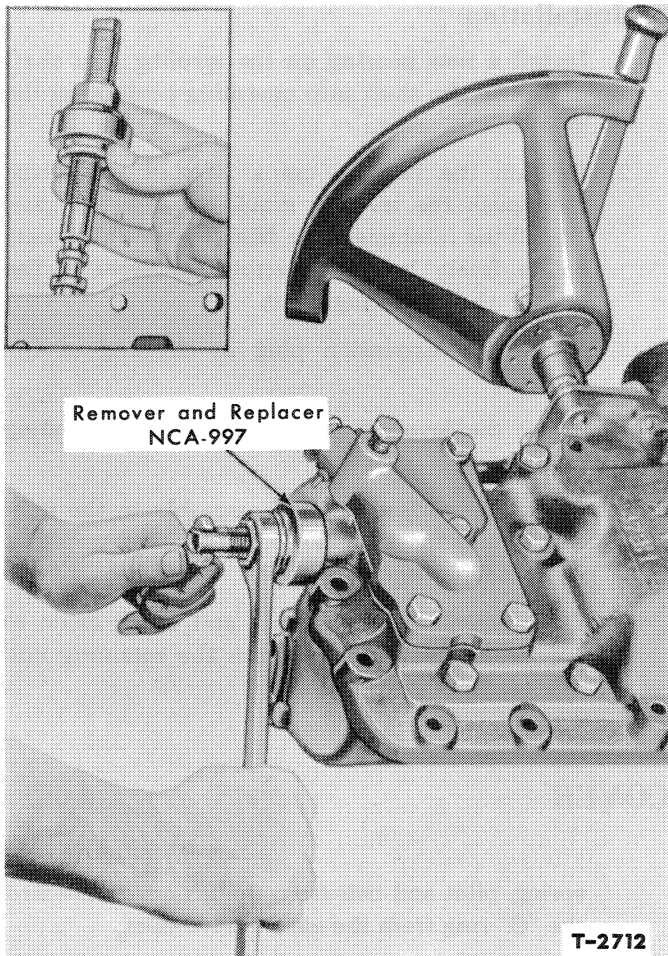

Figure 4—Removing Check Valve Seat
3. Screw the pilot of Remover and Replacer NCA-997 into the check valve seat and remove the seat, using wrenches as shown in Figure 4.